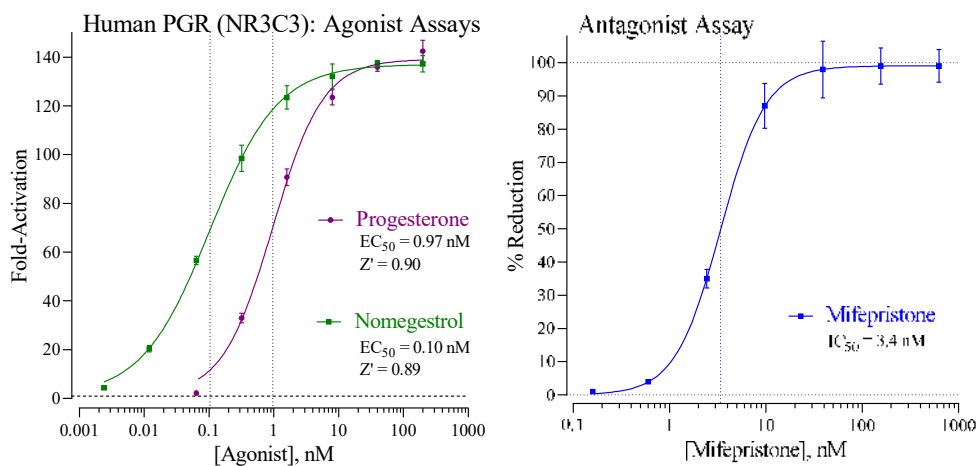

Figure 2. Agonist and Antagonist dose-response analyses of Human PGR.
- *Optional*: antagonist reference compound (*e.g.*, Fig. 2)